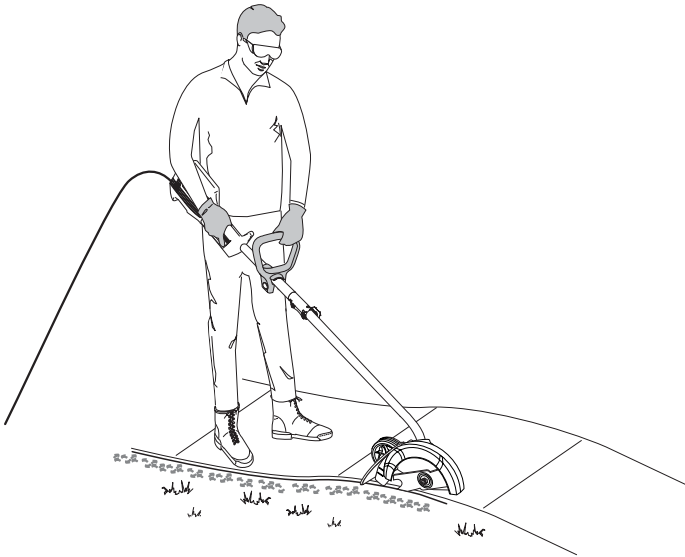

Fig. 4
Before operating the unit, stand in the operating position (Figs. 4 & 5). Check for the following:
- The edger wheel adjusted for proper cut depth and edger positioned as shown in Figs. 4 or 5.